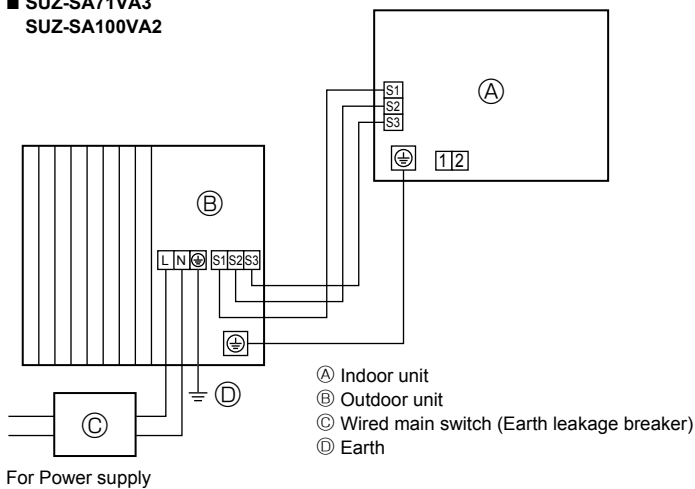
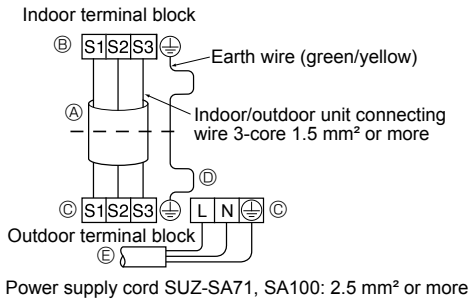
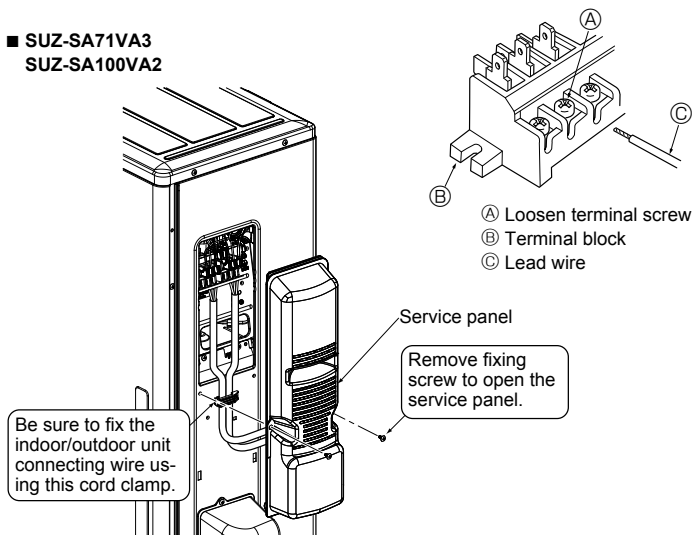

Fig. 5-1
Fig. 5-2
Fig. 5-3
### 5.1. Outdoor unit (Fig. 5-1, Fig. 5-2, Fig. 5-3, Fig. 5-4)
- ① Remove the service panel.
- ② Wire the cables referring to the Fig. 5-1, Fig. 5-2, Fig. 5-3 and the Fig. 5-4.
- Perform wiring as shown in the diagram to the lower left. (Procure the cable locally) (Fig. 5-2)
- Use care not to make miswiring. (Fig. 5-3)